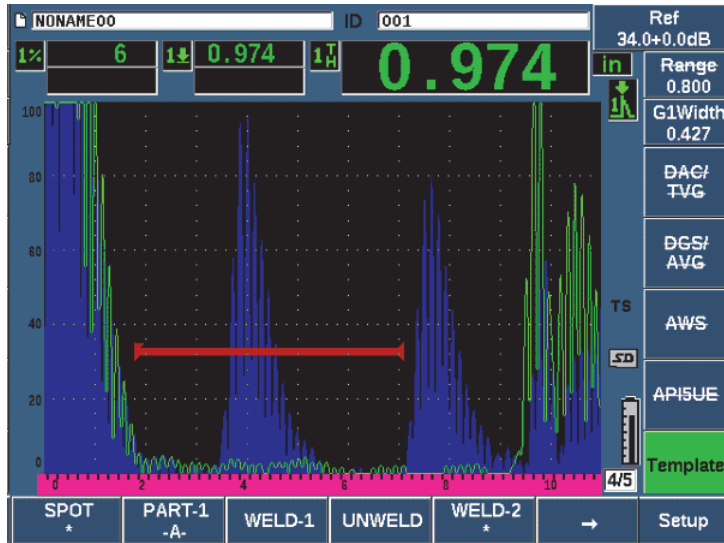

Figure 11-50 Stored template display in live screen
- ◆ Press one of the parameter keys (P1–P5) that appears with a \* symbol below the template name (see Figure 11-50 on page 307).